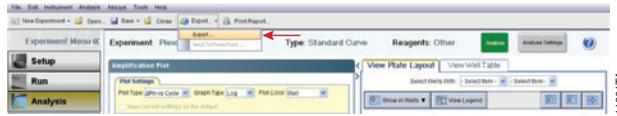

Figure 16. Export the results.
1. In the real-time PCR analysis software, select “Export” from the top toolbar (Figure 16).